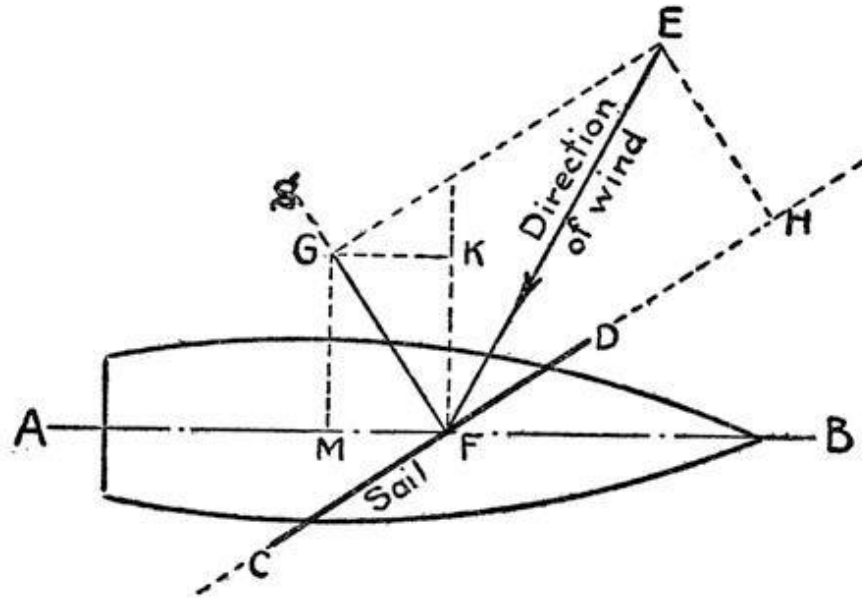

FIG. 60.—FORCES THAT MOVE A SAILBOAT
Now that we know something about the parallelogram of forces we may return to the problem of sailing across and against the wind. In Fig. 60 we are looking down on the deck of a ship and the wind is represented by the arrow. The dotted line AB represents the direction in which the boat is traveling and the line CD represents the plane of a sail. If the line EF represents the magnitude and direction of the force of the wind at the center of the sail, then we can tell how much pressure is being exerted directly against the sail, by drawing the line gF perpendicular to the sail and completing the parallelogram by drawing from E a line parallel to the sail intersecting gF at G and another line parallel to gF intersecting the plane of the sail at H . Then the length of the line GF represents the pressure against the sail. If the line GF is half as long as the line EF , then only half of the force of the wind is exerted in the direction GF . In other words, a wind pressure of one pound per square foot blowing in the direction of GF will do as much work as two pounds in the direction EF . The force of the wind has been broken up into two “components,” one (GF) at right angles to the sail, and the other (HF) edgewise to the plane, and of course the latter has no effect upon the propulsion of the boat.